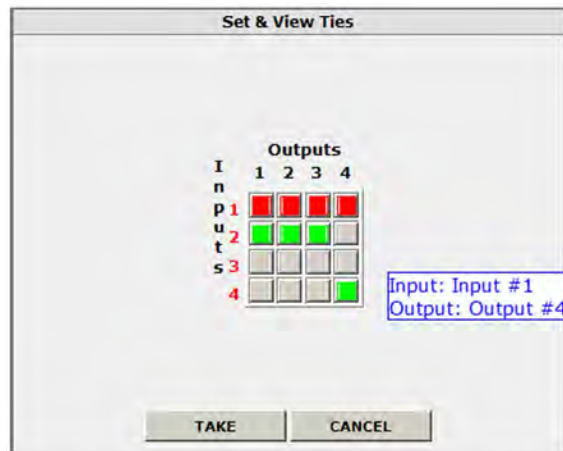

Figure 115. Pop-up Field Providing Formation About a Button Tie
- If you lose track of the input and output associated with a specific button, let the mouse rest over one of the tie buttons for a moment. A field pops up (as shown in figure 115 on the next page) that identifies the input and output for that button.